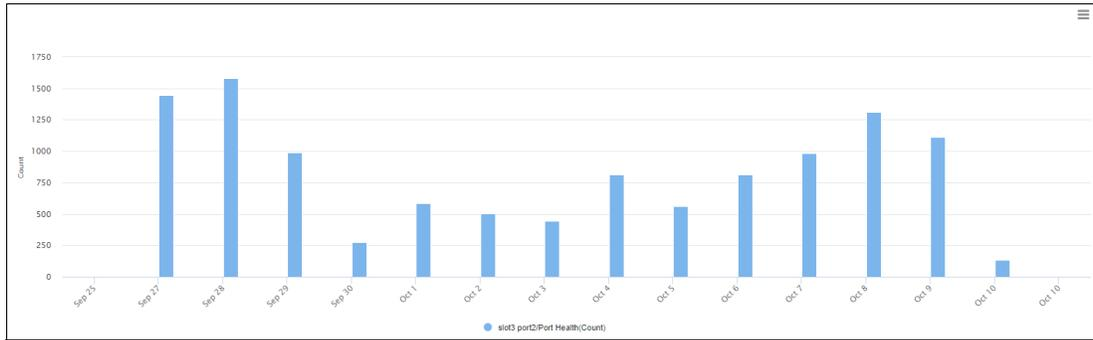

Figure 5-128 Show Violations
2. Click **Show Violations** in the upper left of the graph area. A dialog box opens and shows the violations as a series of bar graphs (Figure 5-128).